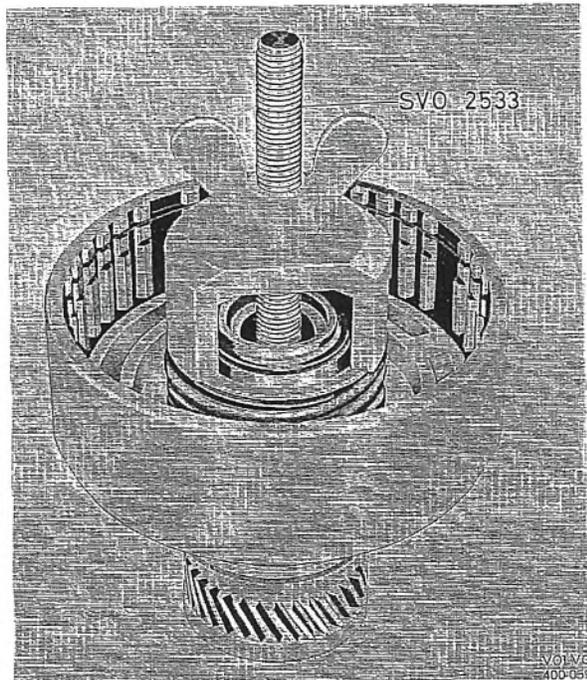

Fig. 4-83. Disassembling rear clutch
31. Place special tool 2533 on the clutch as shown in Fig. 4-83. Tighten the wing nut until the snap
special tool 2533, which is used when disassembling, see Fig. 4-83.